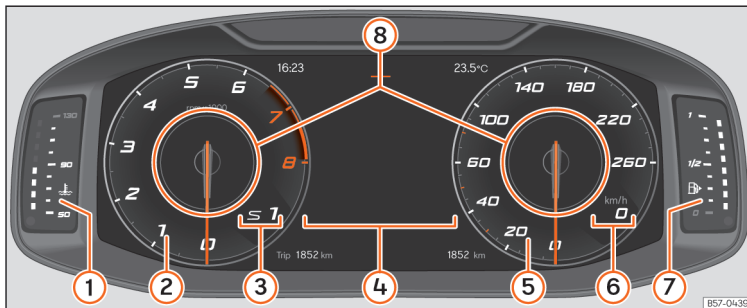

Fig. 54 SEAT Digital Cockpit on the instrument panel (classic view).
»» **Fig. 54** ⑧.
»» **Fig. 54.**